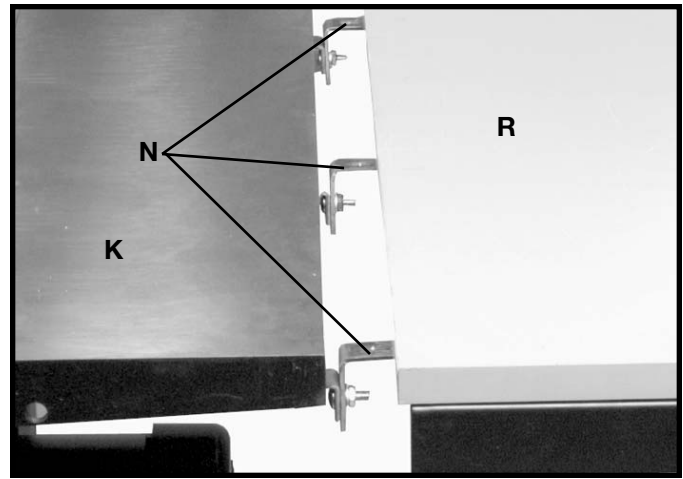
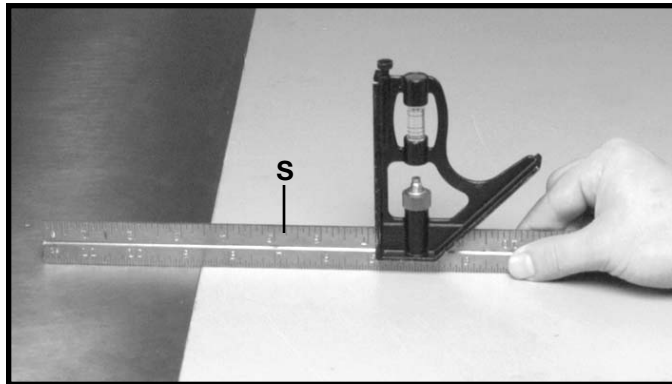
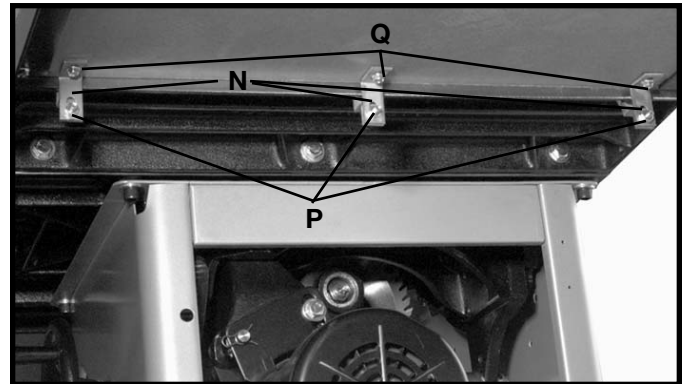

Fig. 45
Fig. 46
Fig. 47
11. Position table board (R) Fig. 45, on top of angle brackets (N) as shown.
12. While holding table board (R) Fig. 45, tightly against extension wing (K), fasten table (R) to brackets (N) Fig. 45, from underneath the table using three #8 x 7/8 inch-long wood screws (Q) Fig. 47. **CAUTION: DO NOT OVERTIGHTEN TABLE MOUNTING SCREWS.** Over-tightening screws in particle board may cause them to strip.
13. Using a straight edge (S) Fig. 46, make certain the Unifence table surface is level with the saw table by placing a square (S) Fig. 46 on the table board and the extension wing, and then adjust the brackets (N) Fig. 45, and then tighten nuts (P) Fig. 45. Place a 3 ft. long level across the table and adjust the two leveling screws located on the bottom of table legs. **IMPORTANT:** Front edge of Unifence table must be flush with or slightly behind front edge of saw table.